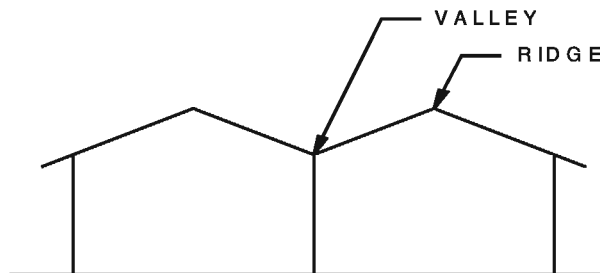

**Fig. 1.3. RISE**
4. **RISE:** It is the vertical height measured from the lowest to the highest point of a gable. Fig 1.3